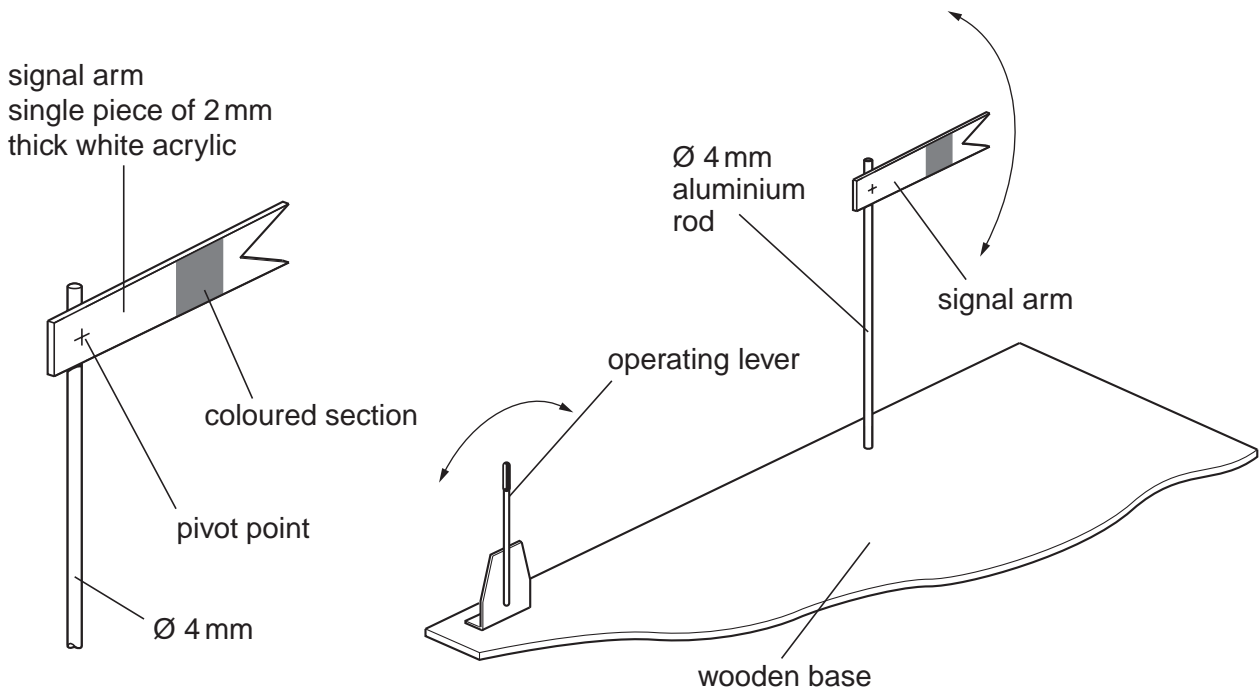

Fig. 3
- 3 Fig. 3 shows views of a signal for a model railway layout and an operating lever. The signal arm moves up and down in the direction shown.
- (d) Use sketches and notes to show a suitable mechanism to operate the signal arm by means of the operating lever shown in Fig. 3.